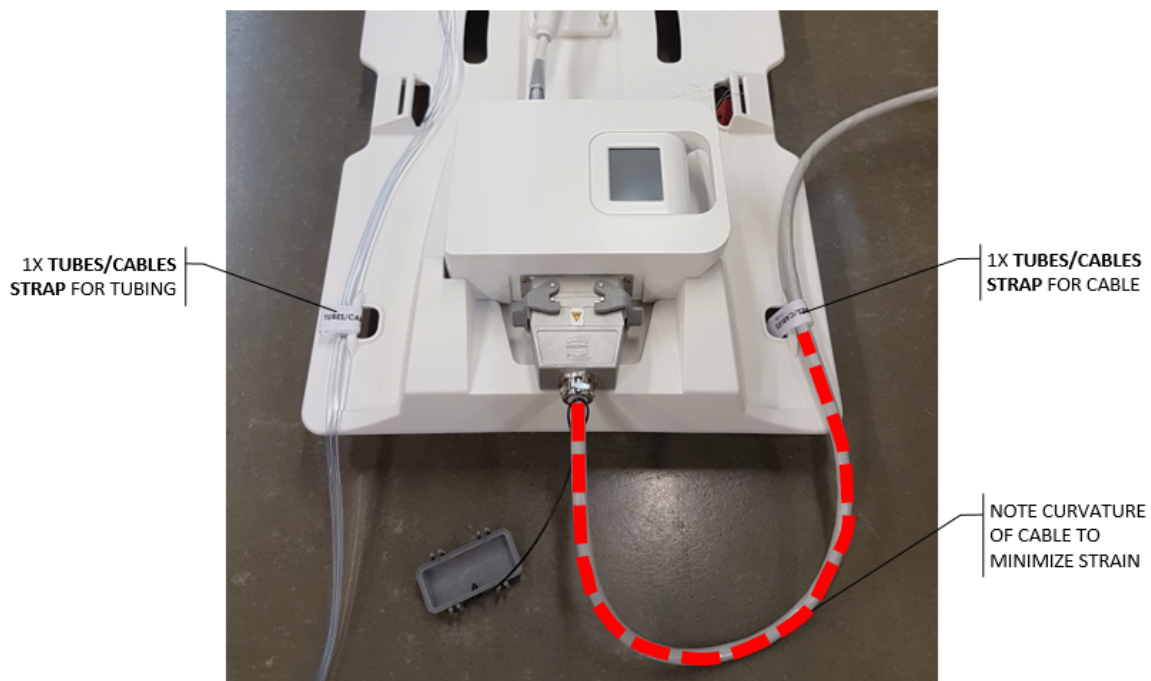

Figure 28: Tube-and-cable straps of base plate: one for tube sets and one for RF cable
4. **MRI Technologist:** Use tube-and-cable straps to manage fluid tubes and the white RF cable as shown in *Figure 28*. Leave some slack to allow the cables to slide freely and to reduce tripping hazards. Ensure no cables, tubing, or other materials can be caught while the MRI table is moving.